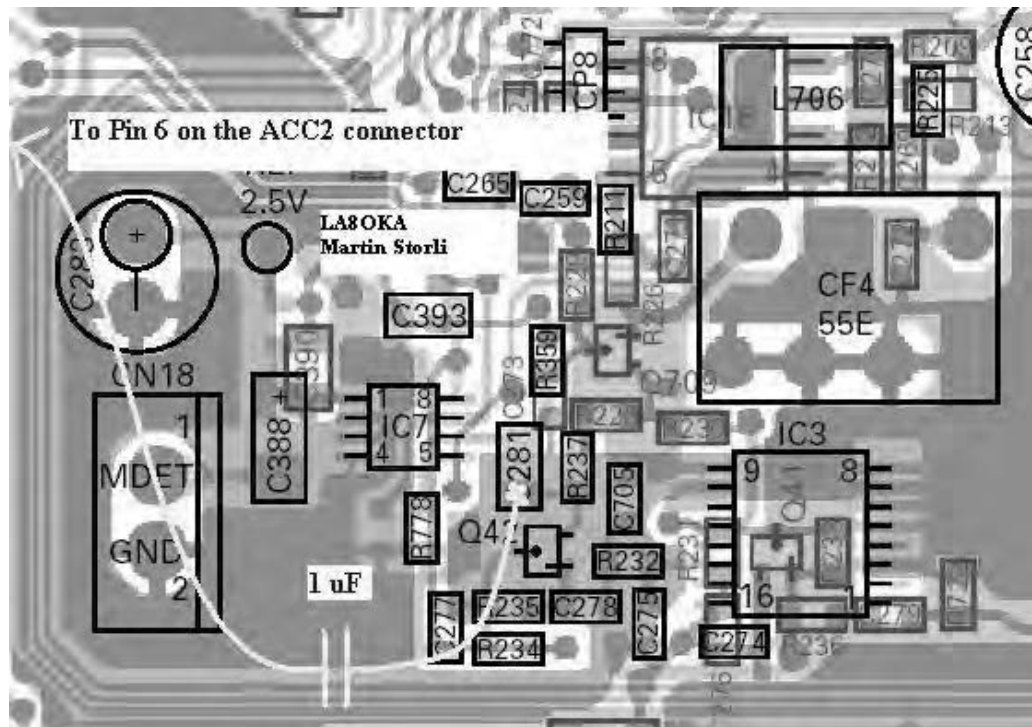

Fig. 3: The Printed Circuit Board showing the connection point of the 1 μ F Capacitor. Please note that Fig. 3 is component side view.
- Isolate the leads of the 1 μ F Capacitor. Solder one of the leads of the 1 μ F Capacitor on to Capacitor C281 as shown in Fig. 3. Be aware, too much heat will damage Capacitor C281 and the Printed Circuit Board! Make sure that the leads of the 1 μ F Capacitor does not connects to any other components.